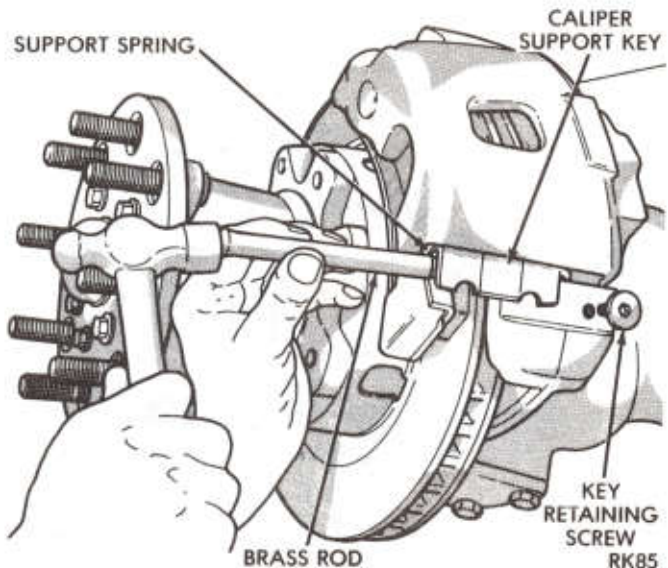

Fig. 11—Installing Key and Spring
(4) Place the spring over the caliper key, install the assembly between the adapter and lower caliper machined surfaces. Tap the assembly into position with brass punch and light hammer (Fig. 11).
(5) Install the screw and torque to 15 ft. lbs (20.3 N·m).